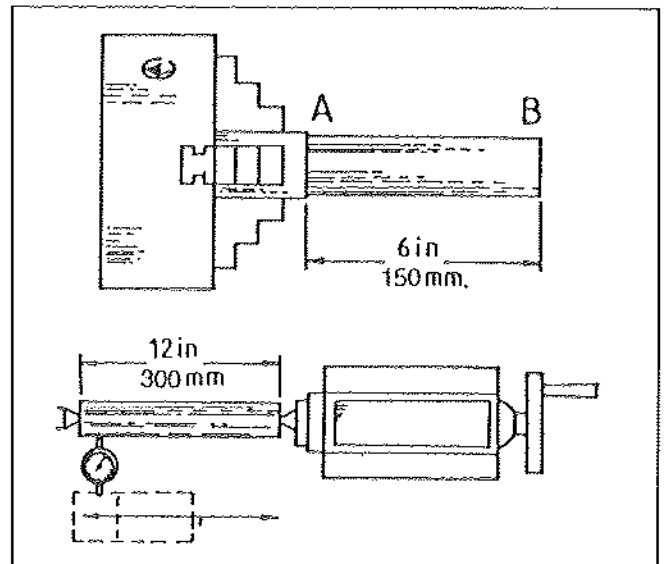

Fig.18
**HEADSTOCK CHECK:** Take a light cut with a keen tool over a 6 in. (150mm) length of 2 in. dia. (50mm) steel bar gripped in the chuck but not supported at the free end. Micrometer readings at each end of the turned length (at A and B of Fig.18) should be the same.
**TAILSTOCK CHECK:** Using 12 in. (300 mm) ground steel bar fitted between headstock and tailstock centres, check the alignment by fitting a dial-test indicator to the topslide and traversing the centre line of the bar (lower sketch, Fig.18).